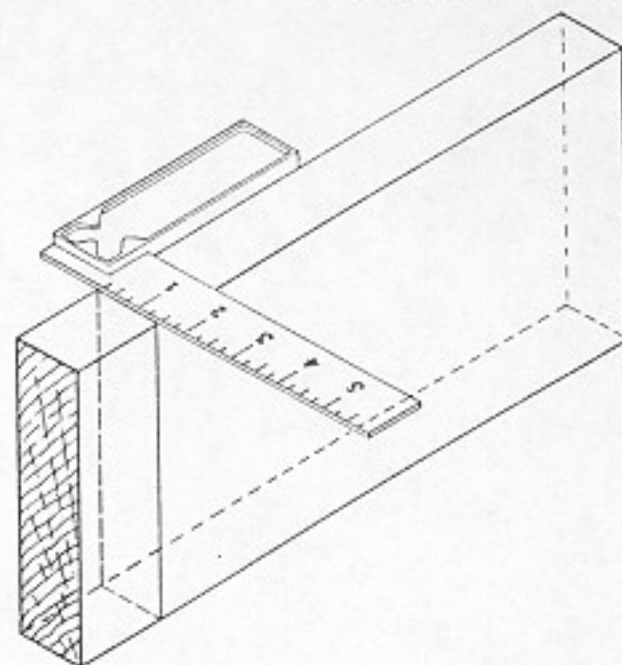

Fig. 41. Squaring a line all around a board with a try-square. Handle of square held against face of board.
4. Lines are squared from the working face across both edges, holding the handle of the square firmly against the working face (Fig. 41).